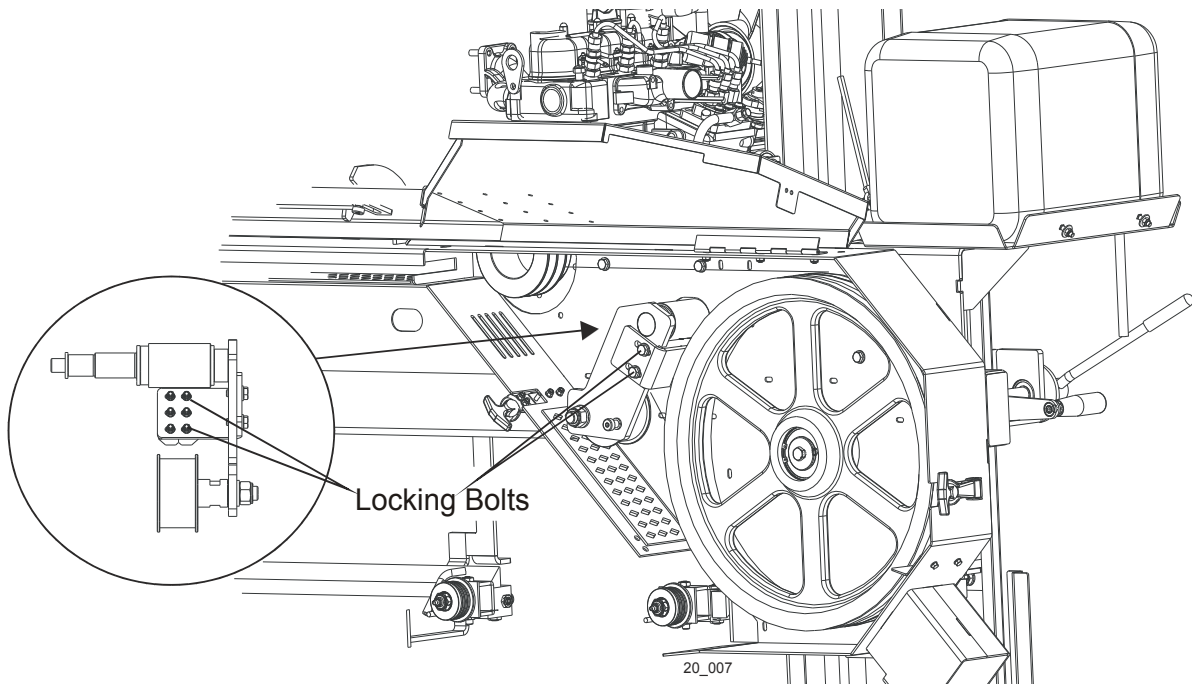

FIG. 4-4
**See Figure 4-4.** Loosen the locking bolts shown below. Adjust the brake pads so the blade stops no more than 10 seconds after disengaging. The brake pads should enter the grooves in the drive pulley when the brake is applied. If they are not, it can lead to their premature wear.